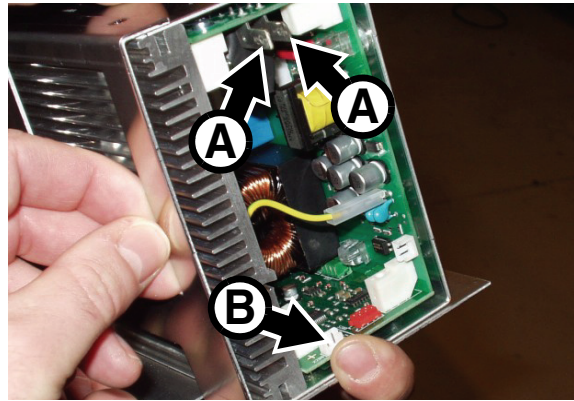

Figure 8
9. See Figure 8. Lift the ballast up slightly and disconnect the two ignitor leads (one blue, one black) from their spade connectors **A**. Then disconnect the reduced lamp power (dimmer) circuit connector from connector X200 **B**.
NB: Figure 8 shows the ballast completely removed from the fixture to make it easier to see the connectors.